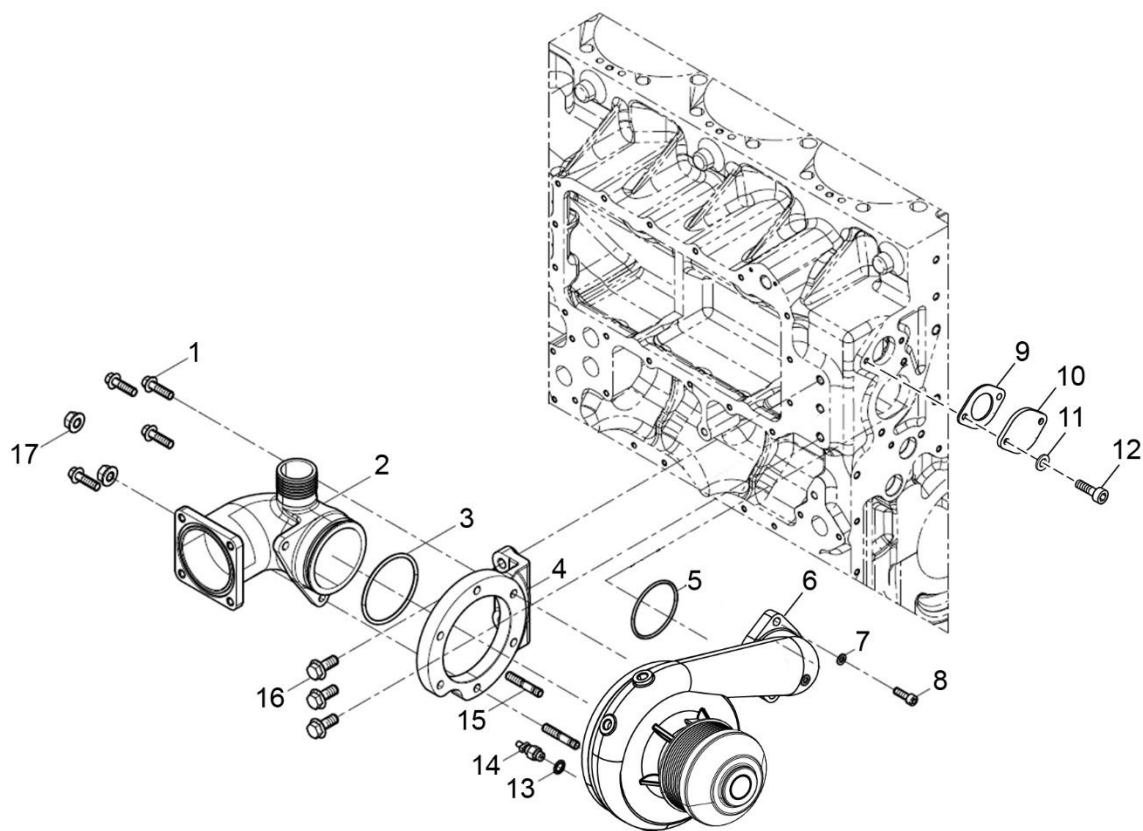

Figure 17. Water Pump Assembly Water Pump Assy
2. Remove the nuts (Figure 17, Item 17), then remove the pipe joint (Figure 17, Item 2), remove O-ring (Figure 17, Item 3).
3. Remove the bolts and washers (Figure 17, Items 7 and 8).
4. Remove the water pump (Figure 17, Item 6).
5. Remove O-ring (Figure 17, Items 5).
6. If required, remove bolts (Figure 17, Items 12), washers (Figure 17, Items 11), cover plate (Figure 17, Items 10) and gasket (Figure 17, Items 9).
1. If removed, install cover plate (Figure 17, Items 10) and gasket (Figure 17, Items 9) and install and torque two bolts (Figure 17, Items 12) and washers (Figure 17, Items 11).
2. Install new O-ring (Figure 17, Items 5).
3. Place the water pump (Figure 17, Item 6) onto the front of the engine.
4. Insert and torque the washers and bolts (Figure 17, Items 7 and 8).
5. Place a new O-Ring (Figure 17, Item 3) onto the back of the water pump (Figure 17, Item 6).
7. Place the pipe joint (Figure 17, Item 2) between the studs (Figure 17, Item 15).
8. Insert and torque the nuts (Figure 17, Item 17).